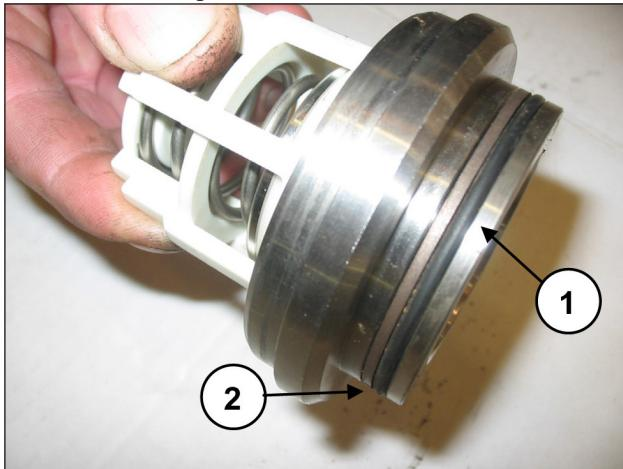

Fig. 119
Fit the O-ring, exploded view pos. 6 (pos. ①, Fig. 119) and back-up ring, exploded view pos. 14 (pos. ②, Fig. 119) on the outlet valve housing.